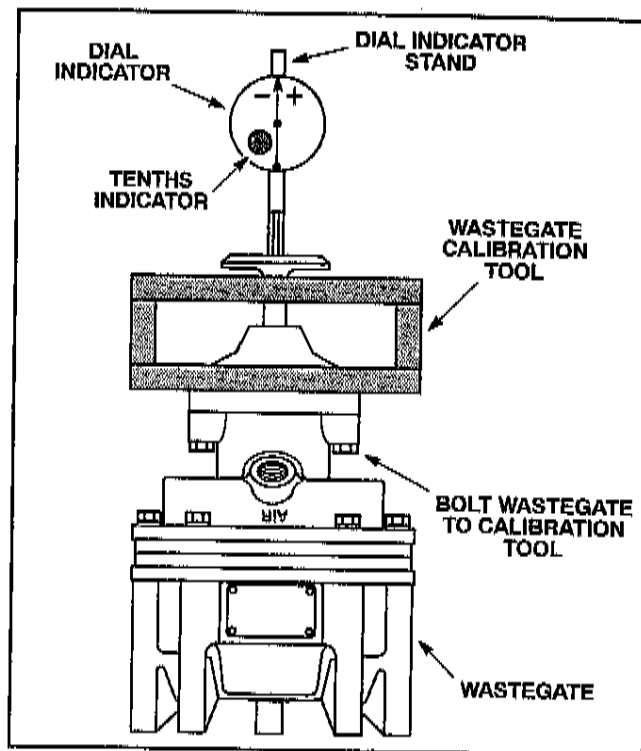

Figure 5.35-28. Wastegate Calibration Setup
5. Bolt wastegate in calibration tool using an alternating pattern (see Figure 5.35-28). Verify that tip of dial indicator is placed near center of poppet valve face.